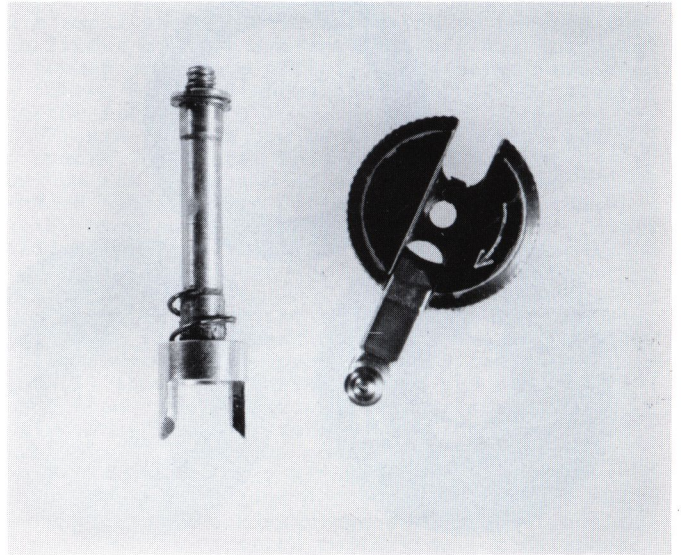

Fig.6-Because the 28/35 finder is no longer present, this special Nikon used a standard S3-type straight rewind shaft.
Figure 5 shows this frame selector cam. Again the standard part is on the left. It is easy to see the enormous difference between the two cams. The frames created by this cam are very similar to those found in the Leica M6, where the wide angle frame is very close to the outside edge of the finder. There was always room for a 35mm finder in the SP...Nikon simply chose not to put it there because, like the 28mm finder in the Leica M6, it stretched the limits of the finder past the original design (the M6 finder was only meant to go to 35mm, but 28mm can be squeezed in). Also this photo shows that the center of the cam has no gear for the rewind. This is because it was not necessary to go around the 28/35 finder in the body casting, and so the regular straight shaft of the Nikon S3 was used (Figure 6 shows that shaft and the rewind knob/lever assembly).
Fig. 6, 7 & 8-The battery pack is removable & has 2 sets of numbers. Externally P/N SED331101573-002 and S/N 10. Internally the same P/N has a -301 suffix and the S/N is 1027. The motor housing is empty as it would be in a DUMMY, but the battery pack is inserted and removed as normal. Note that the frame counter goes to "72"! NASA probably used a thin base film such as Ilford to get as many frames per load as possible without having to go to a bulk back (however, a 250 shot back was made!). The frame reset button and rewind lever are frozen as are the setting wheel and the counter itself. The O-S-C knob on the grip is frozen and the actual release button is missing. Fig. 4 & 5-The camera back is removable as normal but has no pressure plate. The film boxtop holder found on production cameras is present but in this case an erasable memo pad is affixed. Note that the interior looks fairly normal. A shutter curtain is present (but doesn't move) as is the film guide roller, data-back contacts, film sprocket and guide rails. What is missing is the take-up spool! The back lock works normally and its release lock near the rewind cluster does function. There are no numbers present anywhere inside the camera or on the camera back. Note the absence of a regular serial number to the right of the eyepiece. R. Rotoloni.
Fig. 1 is a close-up view of the serial number on this very interesting finder. Why such a long number for such a minor accessory is a little strange to say the least. In Figs. 2 through 5 I have placed this very early finder alongside its probable two succeeding versions for comparison. In each photo they are arranged from the earliest (L) to the latest (R). The most important photo is #2, which graphically illustrates the changing engraving style used by Nippon Kogaku. Our featured finder has both a thinner and smaller style, possibly because of the presence of the serial number. Note that it would have been quite difficult to insert this long number into the succeeding finders, as their type style is too large. The middle finder is probably from the Occupation because of the "TOKYO" engraving, while the finder on the right is obviously post-occupation. I have included four views of all three finders for a better comparison. Except for the engraving differences they actually appear to be quite similar. However, and this is hard to tell from the photos, the chrome finish gets brighter as we go left to right. Our featured finder has the dullest finish (very much like a Nikon I or M), while the middle version is just a little brighter. The final type is noticeably brighter than the earlier versions. In Fig. 6 we have the case for our featured finder (L) next to a standard type. Note the differences in both size and closure configuration. What can't be seen in this photo is the lovely orange tint to the leather of the earlier type. R. Rotoloni.